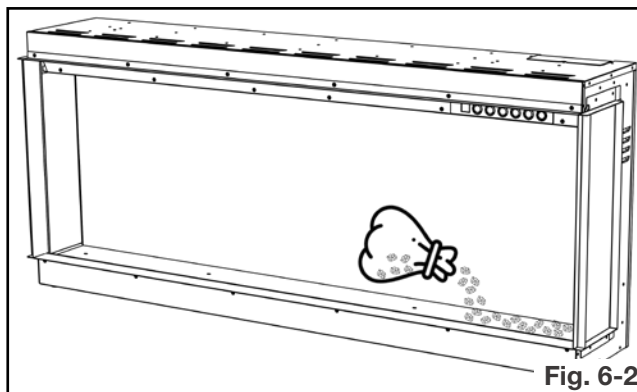

Fig. 6-2
2. Apply an even layer of small crystals along the media tray (**Fig. 6-2**).